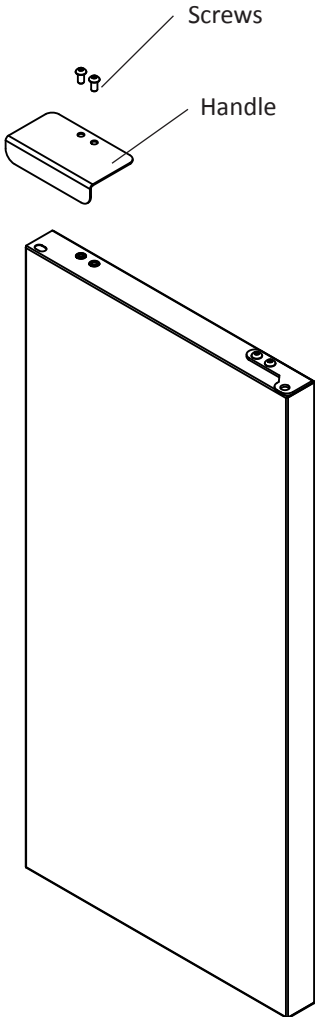

Figure 2
1. Remove the handle, (2) screws, and 5/32" hex key wrench from the bag shipped inside the cabinet.
2. Locate handle opposite the hinges and secure in place using the (2) screws and the hex key wrench. (See Figure 2).